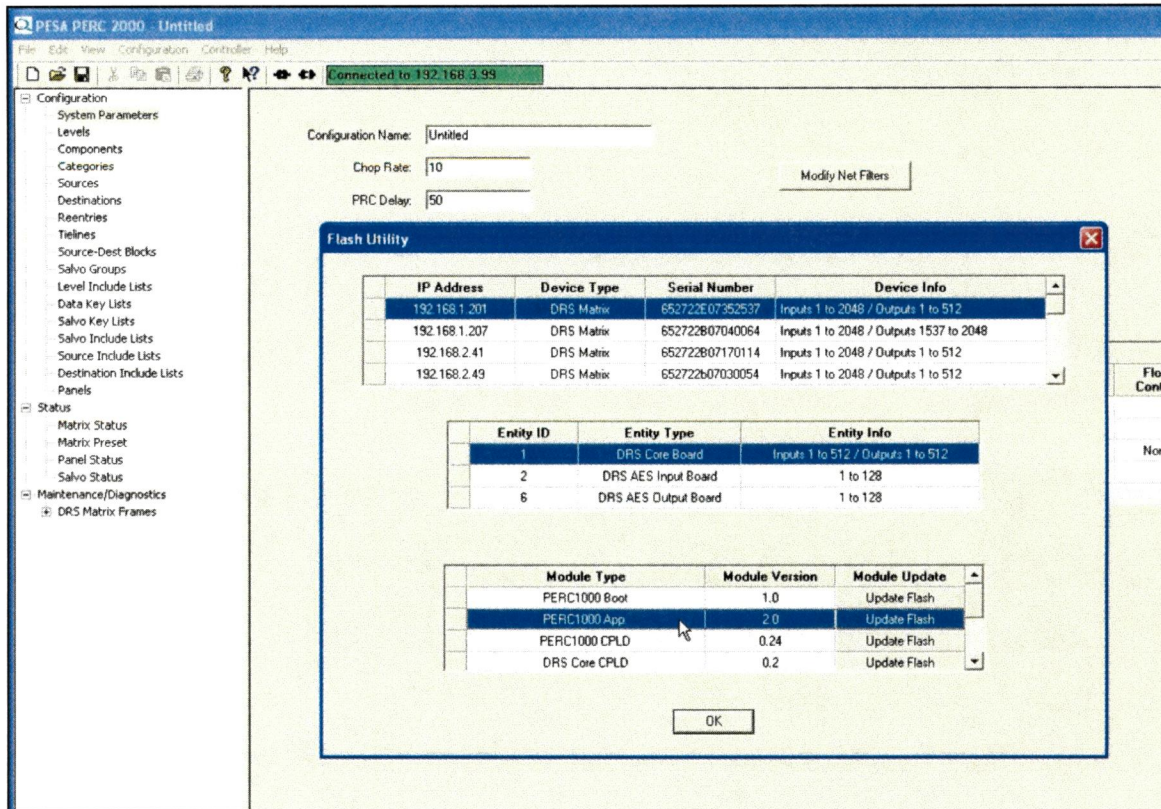

Figure 24. Module Type Listing
6. Entries in the Module Type listing identify the various firmware modules and routines that comprise the controller operating code. Use the scroll bar in the Module Type window to locate the module named **PERC1000 App.**, as shown in Figure 24, and click on this entry to highlight the module name. Click the cursor in the Module Update box on the command **Update Flash**.